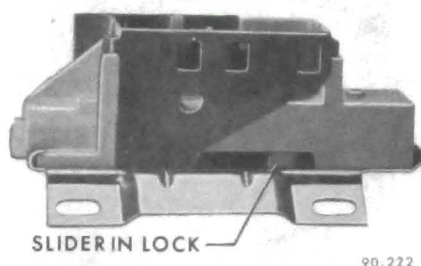

Figure 90-152 - Ignition Switch Slider in "Lock" Position
32. When installing the ignition switch, be sure the lock cylinder is in "Lock" position. Put bowl or shroud (if floor shift column) in "park" position. Make certain that the ignition switch is in "Lock". Fit actuator rod into switch and assemble to column with two screws. Torque the two screws to 35 lb.in. See Figure 90-152.